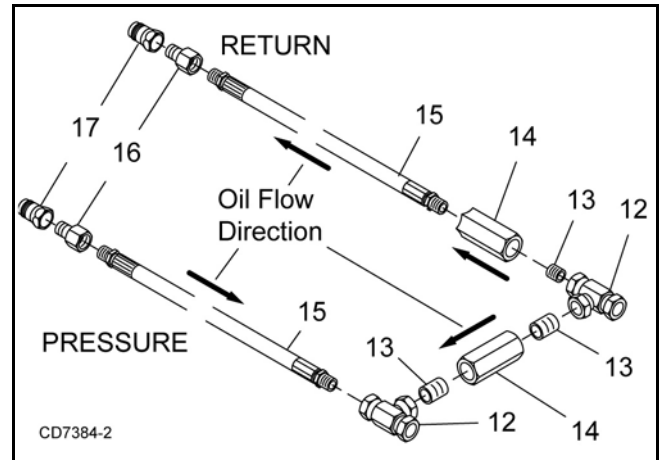
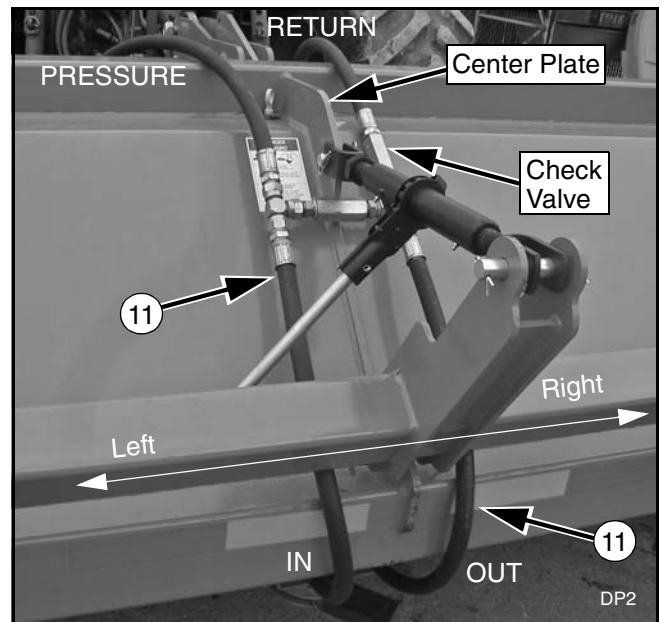

Figure 55. Hose Assembly
Figure 56. Hose Routing
1. Attach male quick coupler (17) and adapter (16) to the end of hose (15). Attach tee (12) to the opposite end of hose.
2. Attach male quick coupler (17) and adapter (16) to the end of second hose (15). Attach check valve (14), nipple (13) and tee (12) to the opposite end of hose.
NOTE: Make sure flow indicator arrow on the side of the check valve (14) is pointing in the correct direction. See Figure 55
3. Install check valve (14) and two nipples (13) between the two tees (12).
4. Place hose assembly around center plate of shredder and drape quick couplers over the front of the shredder. See Figure 55 and Figure 56.